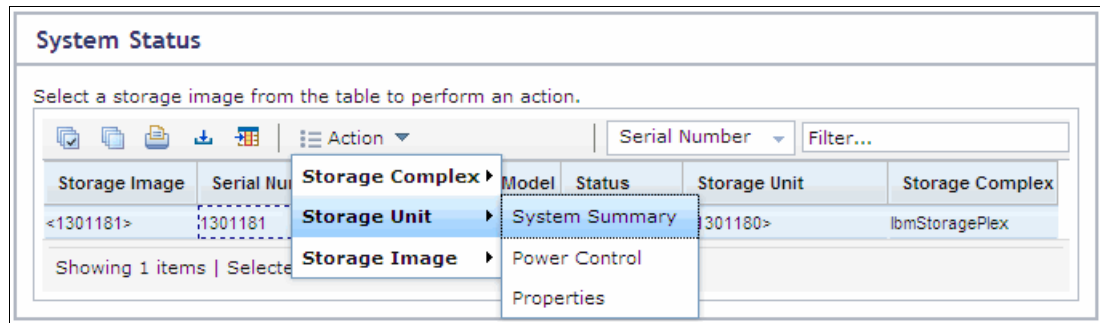

Figure 13-66 Select Storage Unit System Summary
2. Select your storage complex and, from the **Action** drop-down menu, select **Storage Unit** → **System Summary** as shown in Figure 13-66.